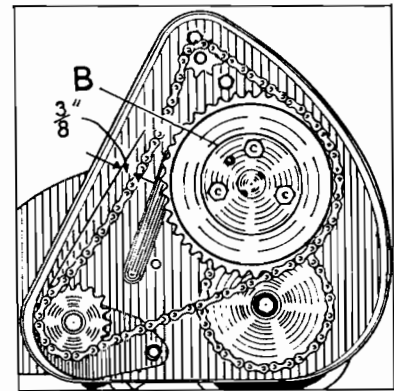

Fig. 16
Disengage the landroll clutch. Remove the chaincover by unscrewing the retaining screw (item 7, illustration on page 2) by means of a coin or screwdriver. Turn the outer clutch plate "B" fig. 16 until the holes in the circular nut beneath this plate are visible. Insert the special pin spanner supplied in the tool kit and turn anti-clockwise. The complete clutch assembly can now be slid upwards and backwards to tighten the chains. Do not overtighten them. When correctly adjusted, it should be possible to depress the cylinder drive by about $\frac{3}{8}$ of an inch midway between the cylinder pinion and the engine drive sprocket as shown in fig. 16.